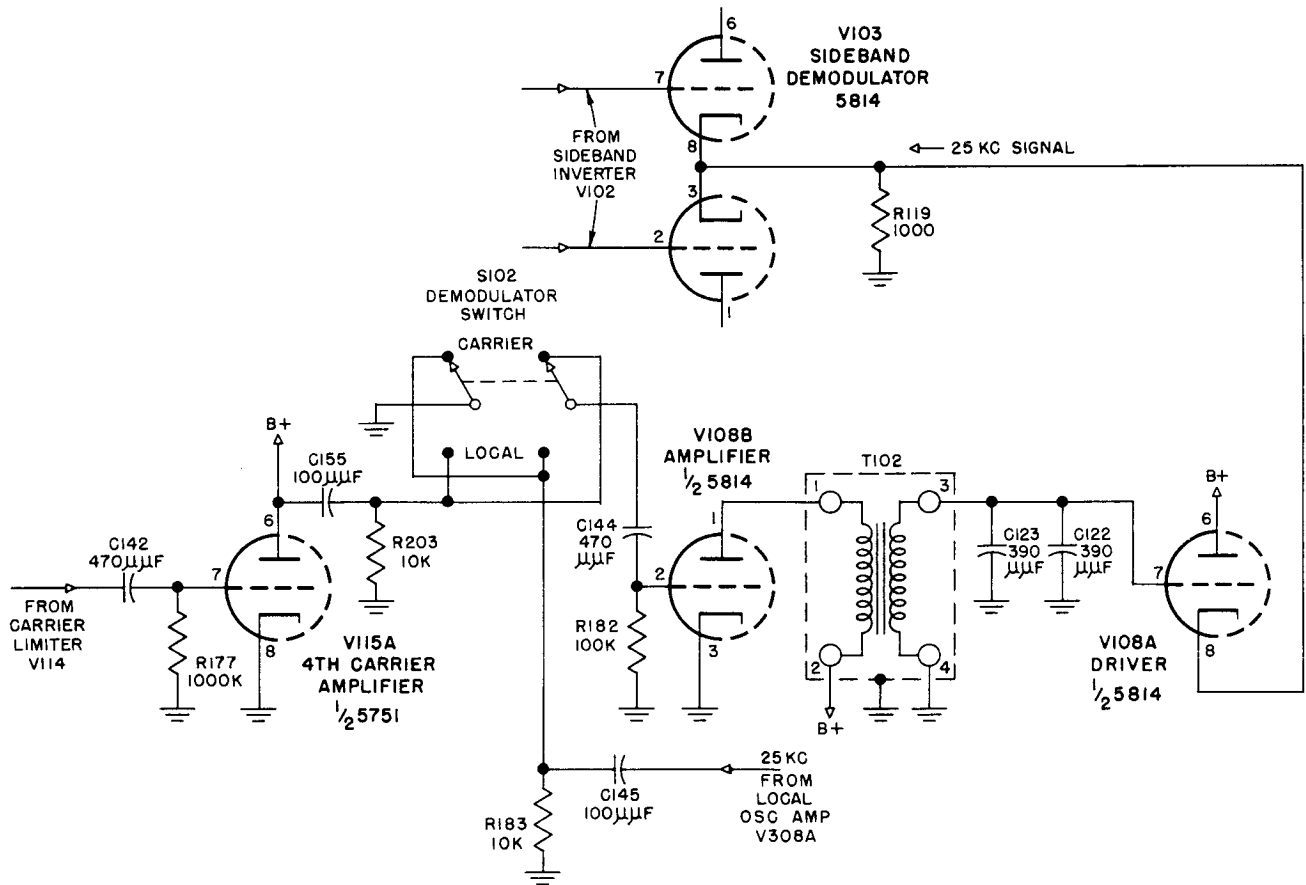

Figure 2-8. Sideband Demodulator Carrier Injection Circuits, Simplified Schematic Diagram
(2) SIDEBAND DEMODULATOR V103.—In this stage the sideband IF signal is mixed or demodulated with its carrier in order to obtain the audio intelligence originally transmitted. The carrier IF signal at 25 kilocycles is usually used for demodulation except when atmospheric conditions make the carrier unsuitable. Demodulator switch S102 permits the selection of either the local oscillator signal or the carrier signal. See Figure 2-8.
(1) AMPLIFIER V108B. (See Figure 2-8.)—The purpose of amplifier V108B is to amplify the 25-kilocycle carrier signal or the local oscillator signal, whichever is used for demodulation. Demodulator switch S102 connects the desired signal to the grid of V108B through capacitor C144. V108B uses one section of a 5814 twin triode. Plate voltage is derived through resistor R145 and the primary of transformer T102. Capacitor C121B bypasses RF currents from the B+ line.
(2) DRIVER V108A.—The function of driver V108A is to drive the sideband demodulator by supplying the latter with the 25-kilocycle signal. V108A uses one section of a 5814 twin triode. Transformer T102 couples the output of amplifier V108B to the input of driver V108A. Capacitors C122 and C123 are fixed tuning capacitors which, in conjunction with the secondary of transformer T102, form a tuned circuit resonant for 25-kilocycles. The DC voltage developed across the demodulator cathode resistor R119 keeps the sideband demodulator cut off except during large negative